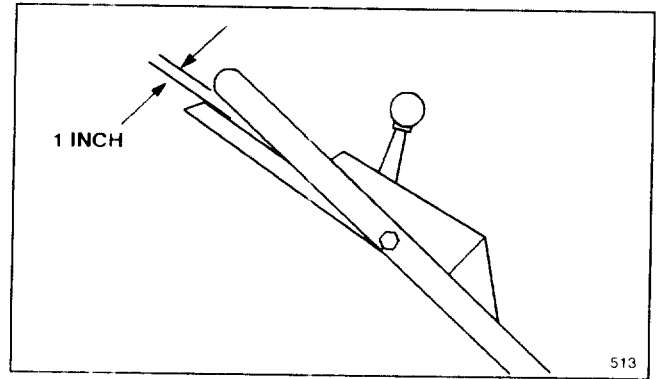

Figure 23
3. CHECK ADJUSTMENT—Slowly pull mower backward while control bar is gradually moved toward handle. Adjustment is correct when rear wheels stop turning and control bar is about 1-inch from handle (Fig. 23) and wheels start to turn freely.